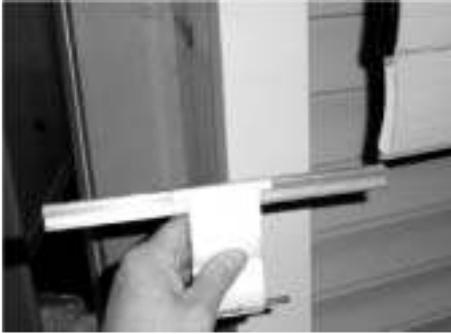

Figure 7
(4) Slide the rigid links onto the top lath of the door curtain (**see Fig. 7**). Carefully slide the door curtain down to the closed position.